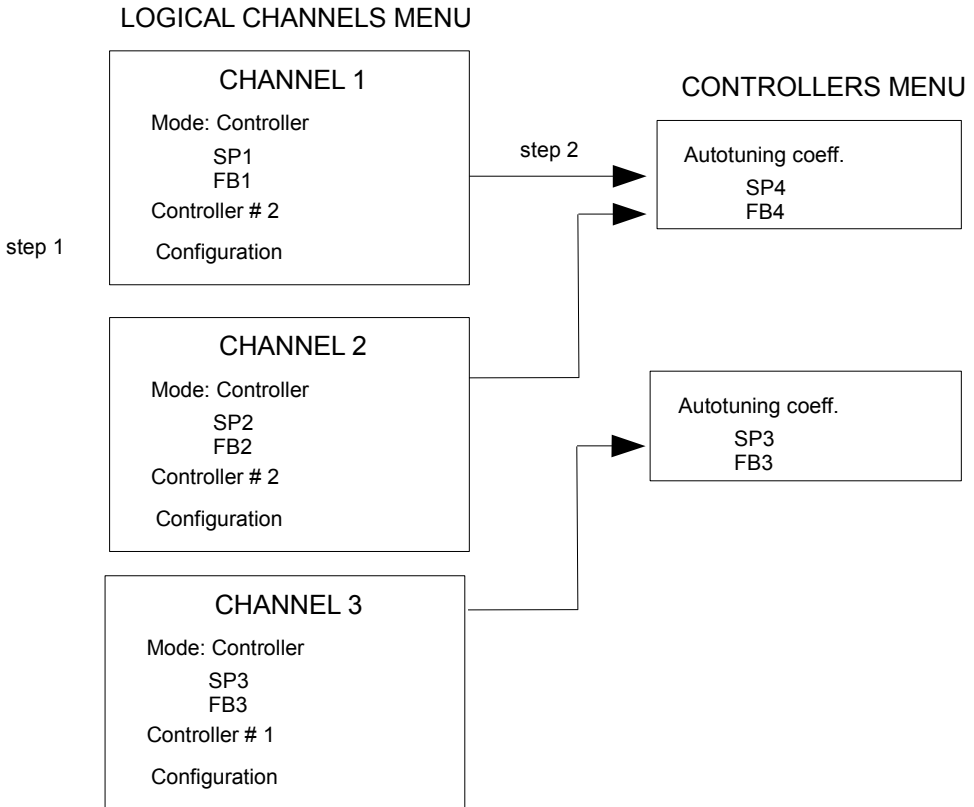

Fig. 7.123. Configuration diagram of the **Controller** using Logical channels Menu
- directly in the Logical channel in the Regulator mode by pressing the button Source configuration (see Fig. 7.123).